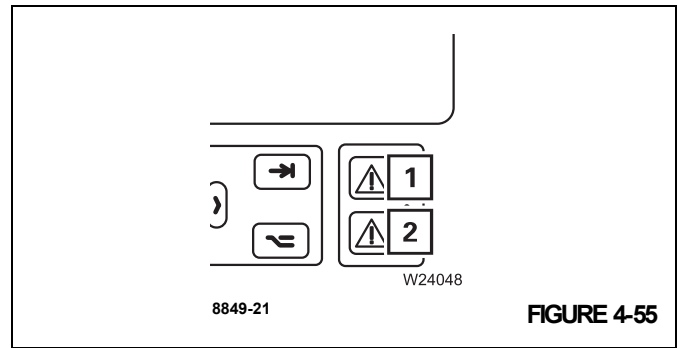

FIGURE 4-55
Lamps (1), (Figure 4-55) and (2), (Figure 4-55) will go out. The RCL code has been applied.